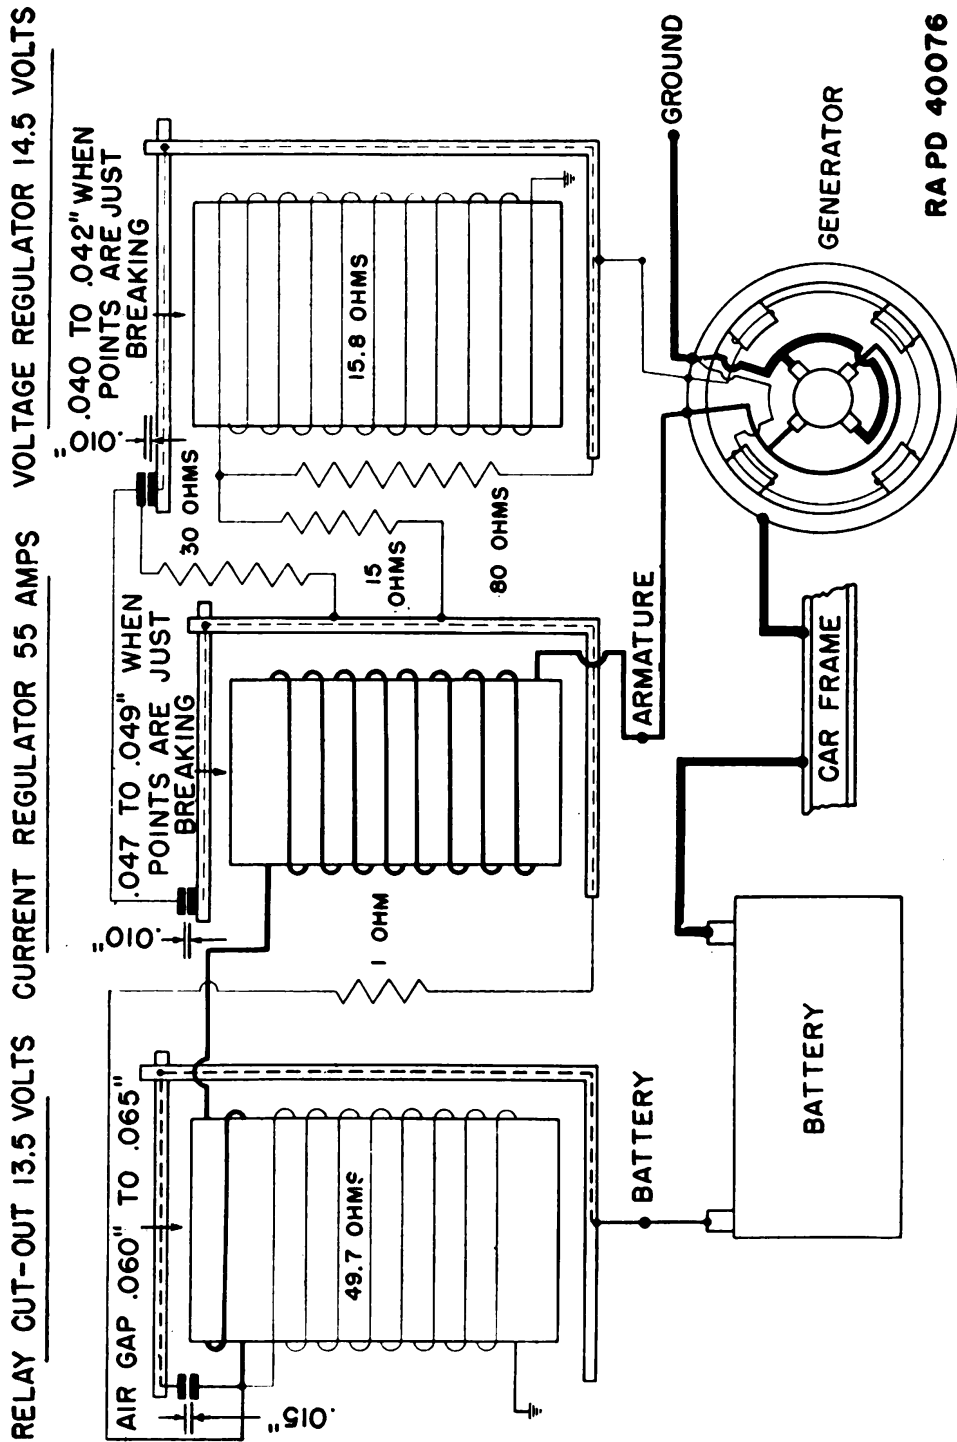

FIGURE 46.—Regulator (type VRH) and generator wiring diagram.
25. Regulator.—*a. Description* (fig. 46).—The regulator contains three assemblies: the cut-out, which closes the charging circuit when the generator is charging and opens the circuit when the generator is not charging; a voltage regulator and a current regulator which connect and disconnect resistance into the generator field circuit and thereby control the generator output. The regulator is mounted in front of the dash, at the left, under the hood of the engine, and is inclosed in a metal case.